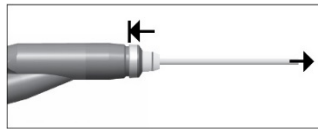

Fig. 2
5.2 Shaver Blade withdrawal (fig. 2)
- Pull the clamping band to the rear of the blade and remove the blade, **fig. 2**. Note: The blade consists of two separate parts. If the internal part remains retained in the Handpiece, pull on this component axially to withdraw it.